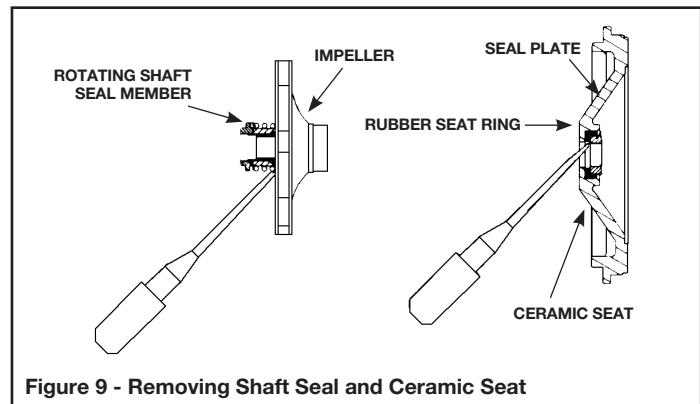

Figure 9 - Removing Shaft Seal and Ceramic Seat
9. Pry the rotating shaft seal member (including stainless collar and rubber seal) from the impeller (Figure 9).
10. Push or pry the ceramic seat, and rubber seat ring free from the seal plate (Figure 9).